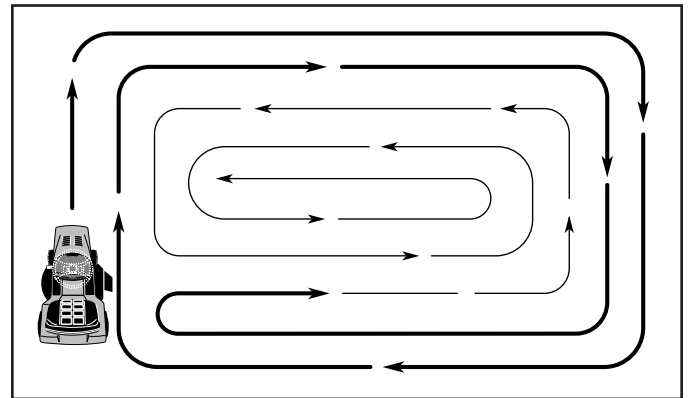

Fig. 12
- When mowing large areas, start by turning to the right so that clippings will discharge away from shrubs, fences, driveways, etc. After one or two rounds, mow in the opposite direction making left hand turns until finished (See Fig. 12).